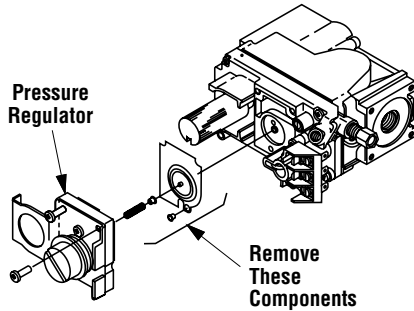

Figure 61
Step 5. - SIT Systems - Refer to **Figure 61 on Page 36** and the instructions provided with the kit. Using a Torx T20 (with 1/4" shank and center hole), tool or standard flat screwdriver remove and discard the three pressure regulator mounting screws. Remove the pressure regulator, spring, poppet, diaphragm and bushing. **Discard all removed components.**